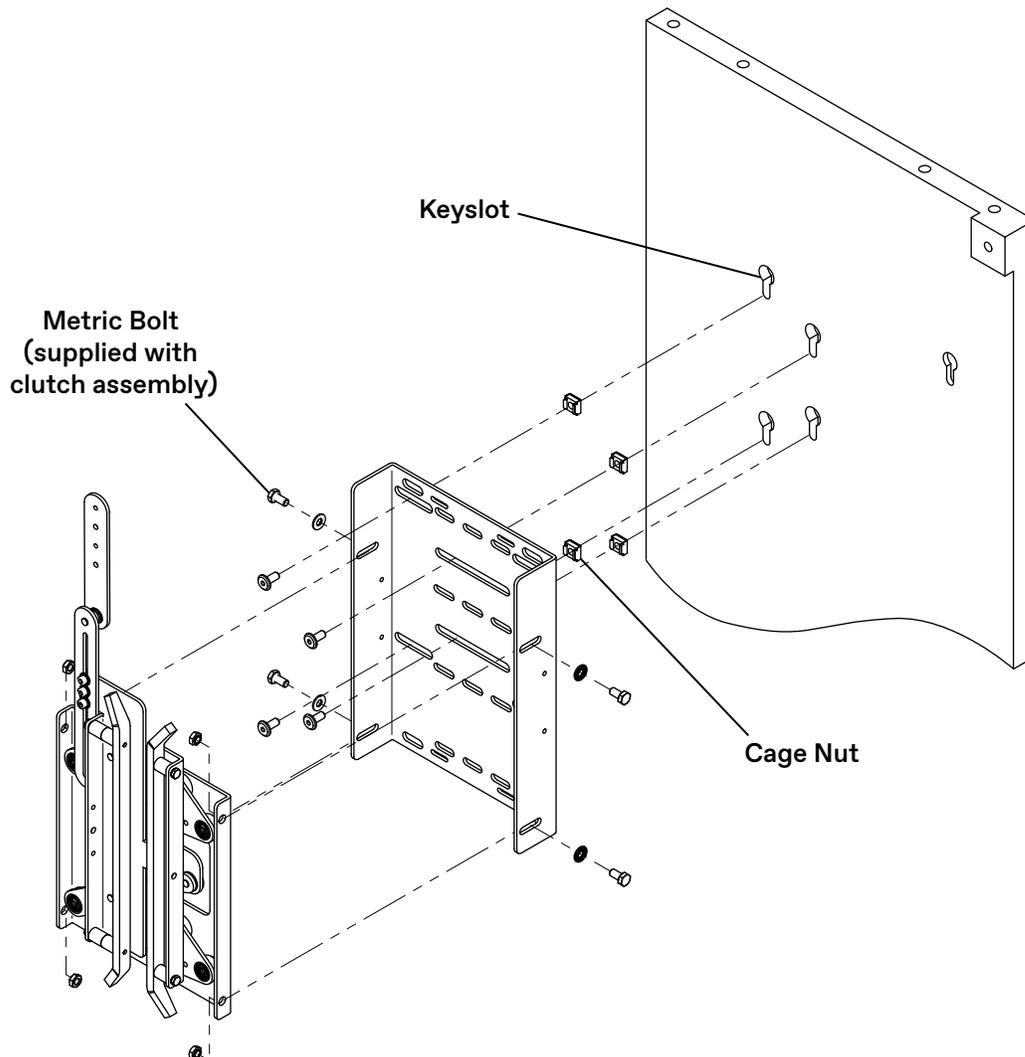

Figure 22 - Clutch Installation
10. Use the supplied metric bolts to attach the clutch assembly. See Figure 22.